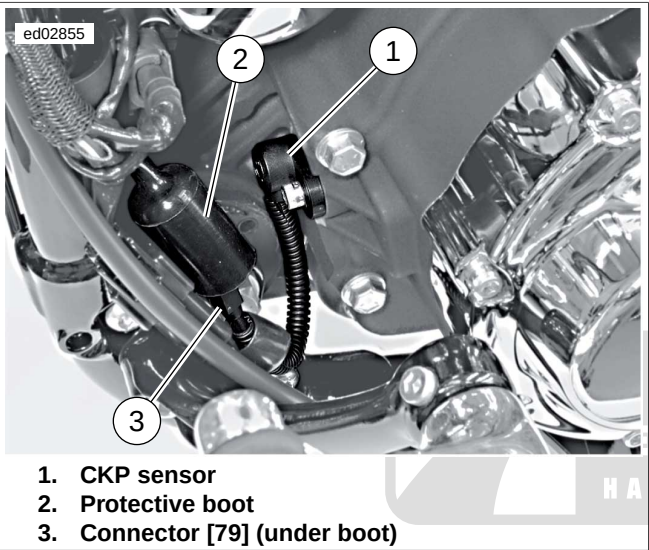

Figure 4-43. CKP Sensor Location (typical)
See Figure 4-43. The Crankshaft Position (CKP) sensor (1) is located on the front of the left engine crankcase. The sensor harness connector [79] (3) is located under a protective boot (2) behind the front left frame downtube.